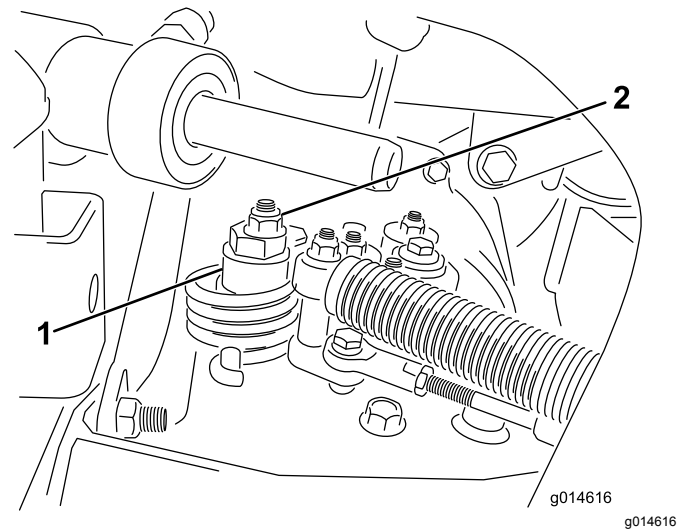

Figure 34
- A. Loosen the nut securing the eccentric to the top of the hydrostat (Figure 34).
- C. Rotate the eccentric until creep does not occur in either direction. When the wheel stops rotating, tighten the nut locking the eccentric and the adjustment (Figure 34). Verify the adjustment with the throttle in the SLOW and FAST position.